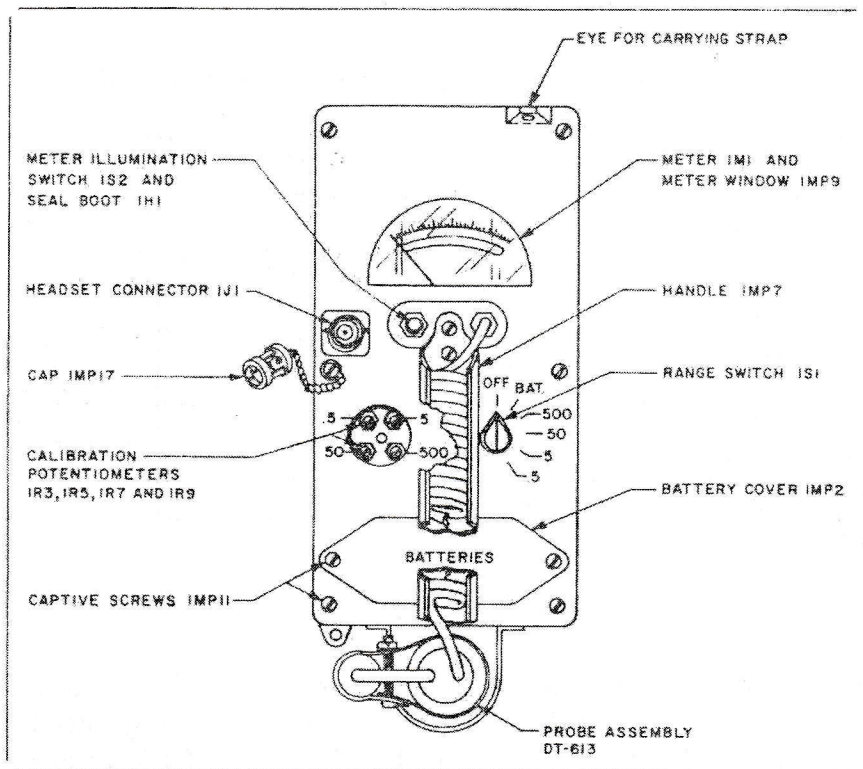

Figure 2-1 HDER G-01 Top Panel Controls.
B. HEADSET H-43B/U. The headset provides the operator with aural indications of radiation intensity when plugged into the jack on the panel (figure 2-1).
C. HARNESS. The shoulder harness, an adjustable strap made of non-absorbent plastic, is used for carrying the HDER-G01 during operation. Clip fasteners on each end of the strap snap into holes in small projections on the HDER G-01 panel (figure 2-1).
- 2-2. CONTROLS AND INDICATORS. Refer to Figure 2-1 which shows the operating controls. A single six position selector switch turns the unit on, provides for battery (BAT) check and selects the 500mR/hr, 50mR/hr, 5mR or 0.5mR/hr range. There is a screw cover which, when removed exposes the four calibration controls. These are marked 500, 50, 5 and 0.5 indicating the range being switched. Also located on the top panel is the BNC connector for the headset. The operator is permitted to handle only the operational controls; namely, the selector switch, the LIGHT switch, attach the headset and attach the carrying strap.